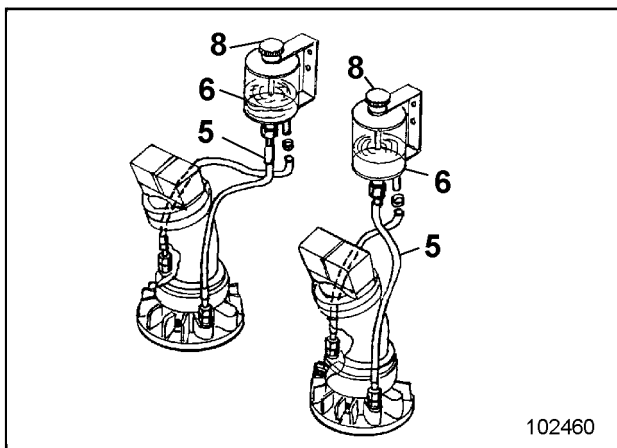

Fig. 4
- Unscrew cap (8, Fig. 4) and fill in new oil through expansion tank (6). The expansion tank (6) must be filled with gearbox oil up to ca. 1/3.
The gearbox is vented through cap (8, Fig. 4).